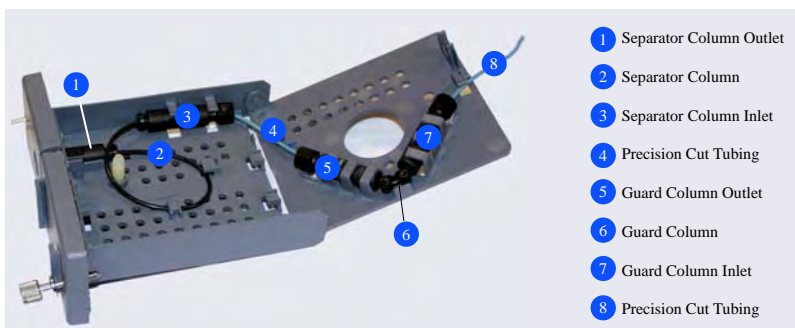
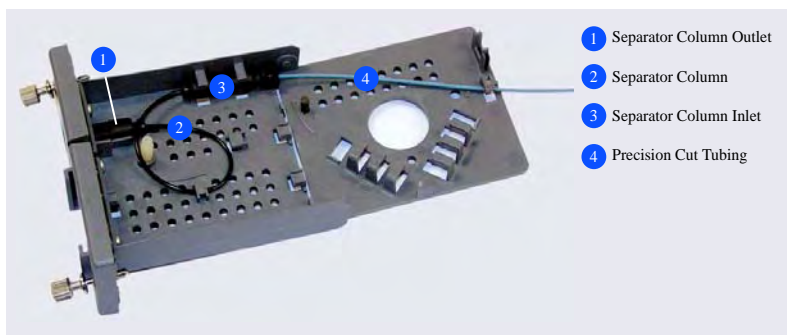

Figure 1
Figure 2
1. Before installing the new separator column, tear off the column label and slide it into the holder on the front of the cartridge (see Figure 1).
2. For reference, Figure 1 shows the column cartridge after installation of both a capillary guard column and a capillary separator column. Figure 2 shows the column cartridge after installation of only a capillary separator column.
- Coil the separator column tubing inside the cartridge as shown in Figure 1 or Figure 2. Secure the column tubing and the inlet fitting in the clips on the column cartridge.